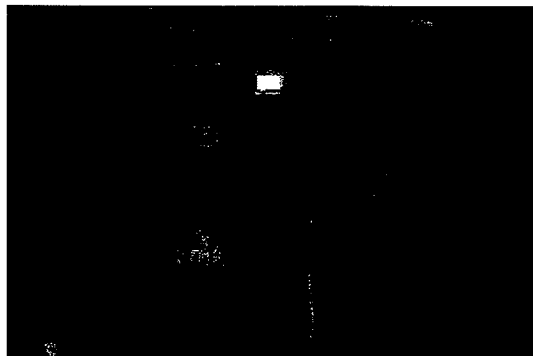
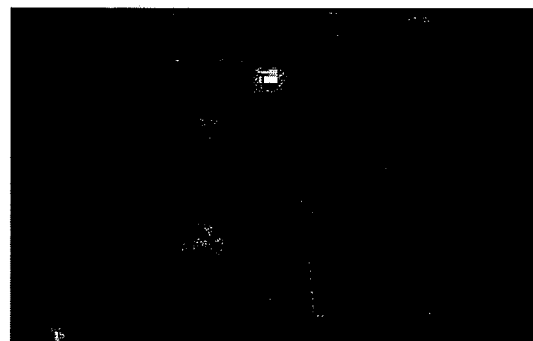

Figure 25
Figure 26
1. Drain the solution tank (Figure 25) and the recovery tank (Figure 26). To drain the tanks , follow this procedure: